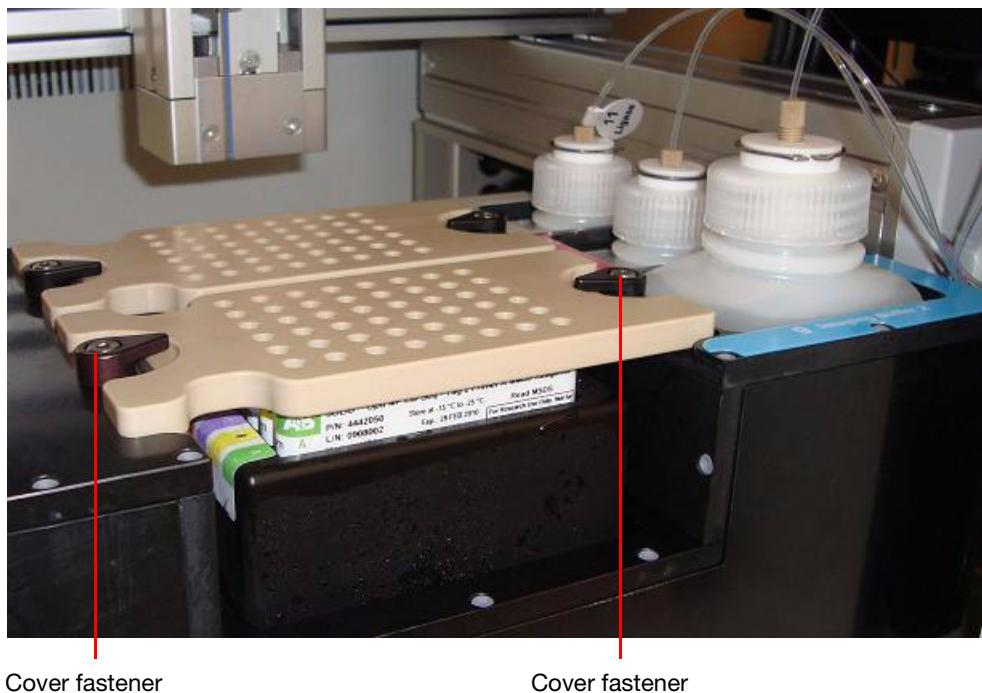

Figure 35 Securely fastened reagent strip covers.
6. Place the cover over the reagent strips and secure them using the cover fasteners (see Figure 35).